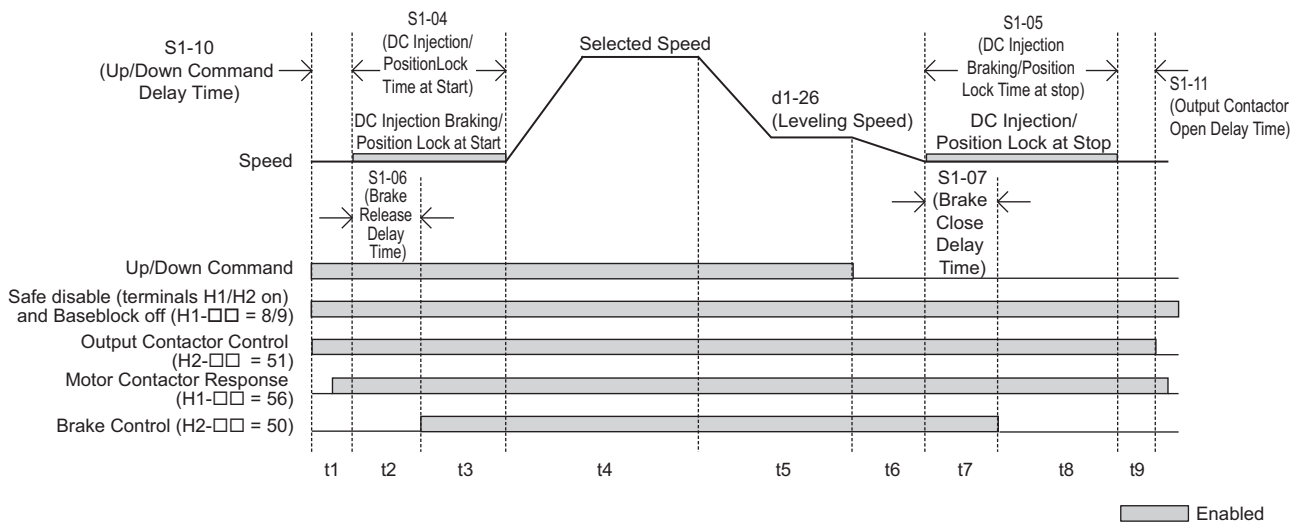

Figure 4.17 Brake Sequence without Torque Compensation at Start
*Figure 4.17* is divided into time zones. *Table 4.11* explains the sequence in each time zone.